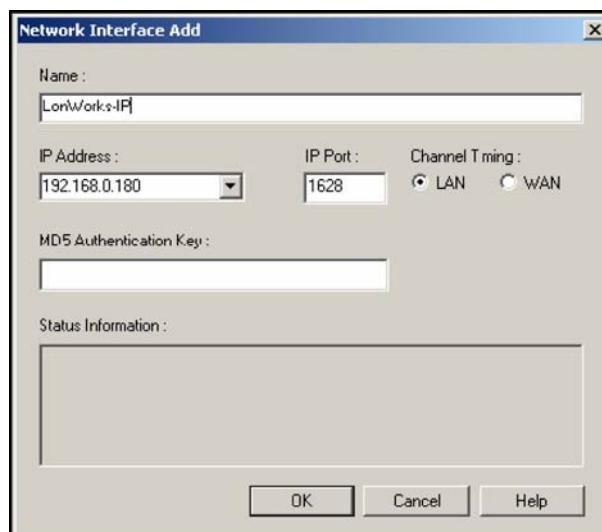

Figure 30: Network Interface Add Wizard
4. Click **Add** to add a new network interface. The Network Interface Add Wizard appears (Figure 30).